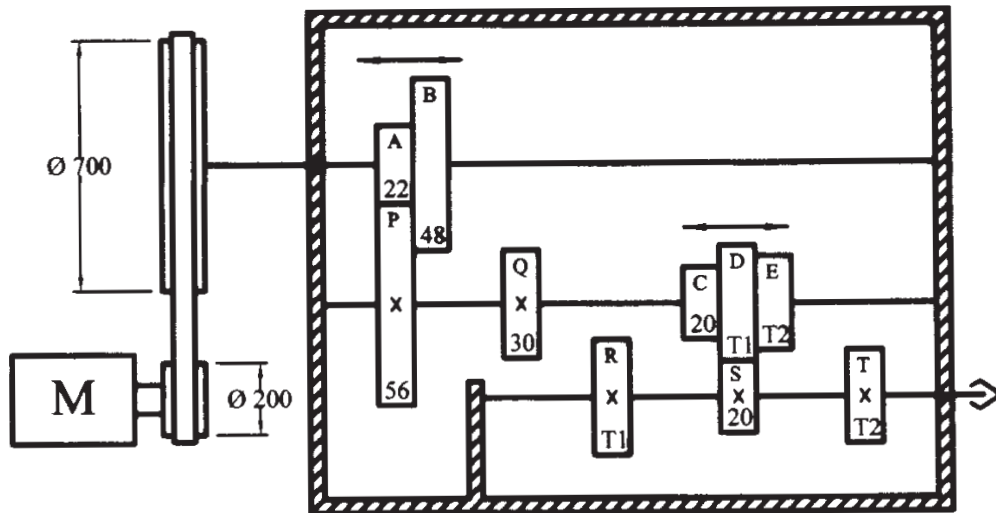

Figure 1
b) Figure 1 shows gearing diagram of a multispeed gearbox with number of teeth on each gear as specified. Motor 'M', running at 1435 rpm, is driving the input shaft through flat belt running over the pulleys with specified diameters. The lowest speed of gearbox should be near about 100 rpm. Answer the following questions based on the figure.